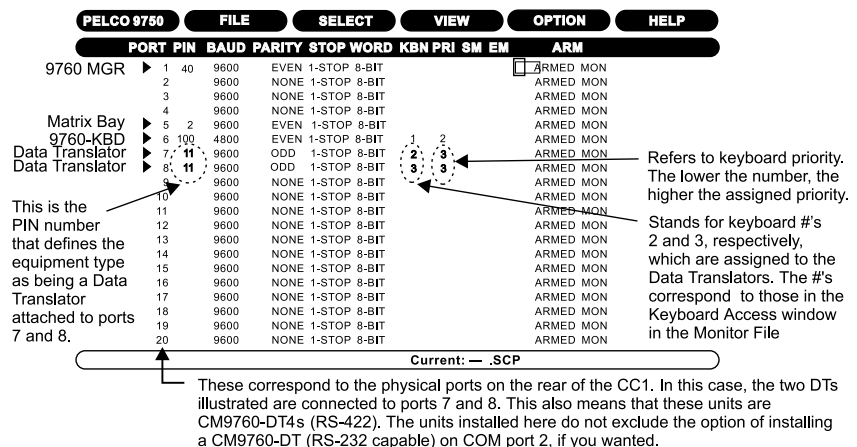

Figure 7. Comms File
2. Simultaneously, press the **ALT + S** keys to activate the SELECT pull-down menu; arrow to the Comms (.SCP) selection, highlight it and press the **ENTER** key. The Comms file appears, as shown in Figure 7.
3. Edit the Comms file based on the explanatory remarks found in the menu illustrated in Figure 7.